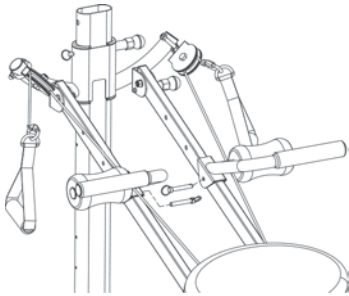

Fig. 2
3. Insert the 2 Short Hitch Pins through the holes on the Wing Attachment brackets and the holes on the rails, as shown in Fig. 2.
3. Insert the 2 Short Hitch Pins through the holes on the Tri-Grip Shaper Bar Brackets and the holes on the Rails as Shown in Figure 2. Make sure to securely attach each Tri-Grip Shaper Bar to the frame before using.